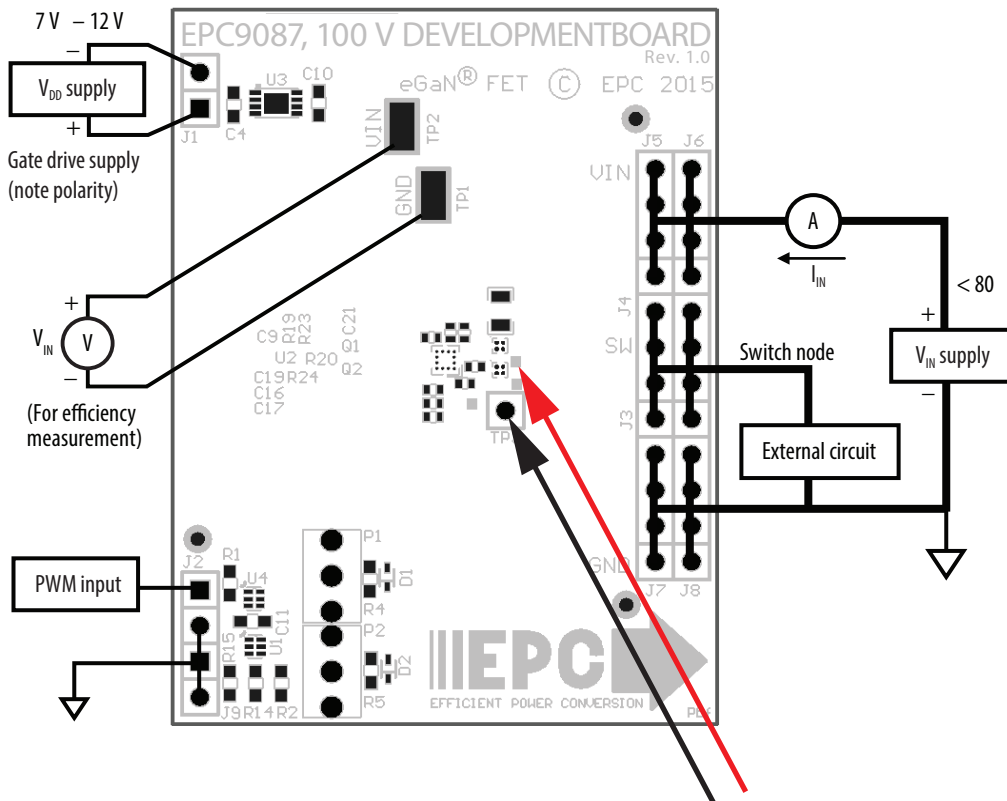

Figure 2: Proper measurement of the switch nodes.
Development board EPC9087 is easy to set up to evaluate the performance of the EPC2037 eGaN FET. Refer to figure 2 for proper connect and measurement setup and follow the procedure below:
2. With power off, connect the switch node (SW) of the half bridge OUT (J3, J4) to your circuit as required (half bridge configuration).
3. With power off, connect the gate drive input power to +VDD (J1) and ground return to -VDD (J1) as shown in figure 2.
4. With power off, connect the input PWM control signal to PWM (J2) and ground return (J2) as shown in figure 2.